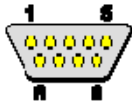

Figure 4-30: Serial Communications Connector Pinout Locations
- CN Pinouts:** See **Figure 4-30** and **Table 4-31**